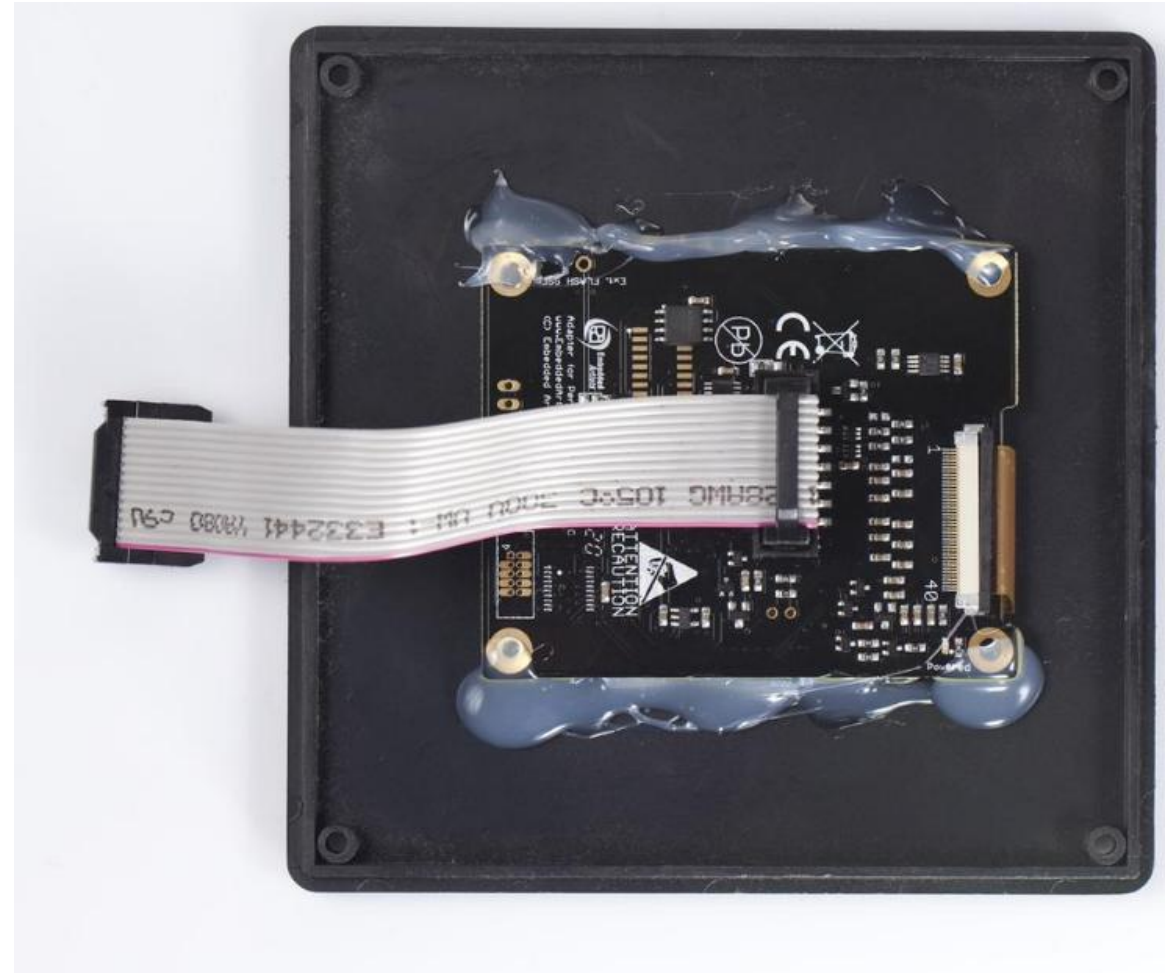

Figure 12-20. Screen hot glued
- Use hot glue to attach the screen to the box as shown in Figure 12-20.